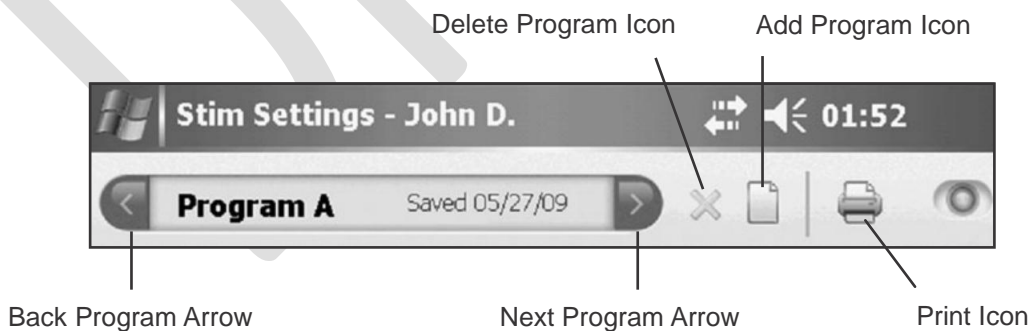

Figure 9-7. Add a program icon, back program arrow, next program arrow, delete program icon, and print icon.
1. From the STIM SETTINGS TAB or TIME SETTINGS TAB press the add program icon on the Program Bar. See Figure 9-7.
1. From the STIM SETTINGS TAB or the TIME SETTINGS TAB, press the left or right arrow on the Program Bar and scroll to the desired program. If only one program is saved, then the arrows on the Program Bar will be disabled. See Figure 9-7.
2. Press the delete program icon on the Program Bar. See Figure 9-7.
1. Open the selected program and press the print icon. See Figure 9-7.